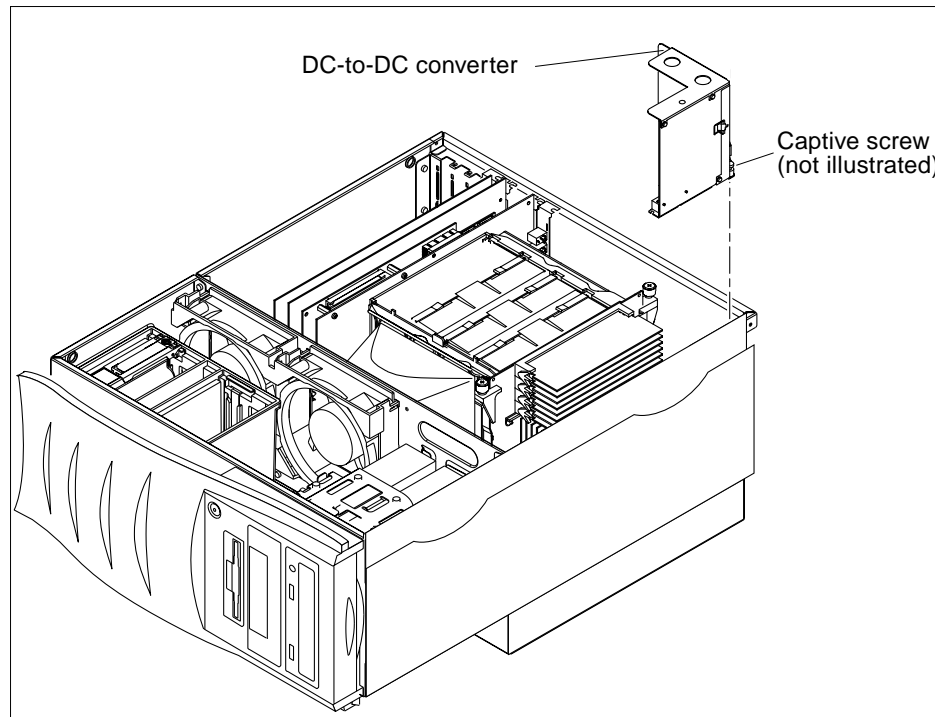

FIGURE 7-4 Removing and Replacing the DC-To-DC Converter Assembly
**3. Remove the DC-to-DC converter assembly as follows (FIGURE 7-4):**
1. Replace the DC-to-DC converter as follows (FIGURE 7-4):